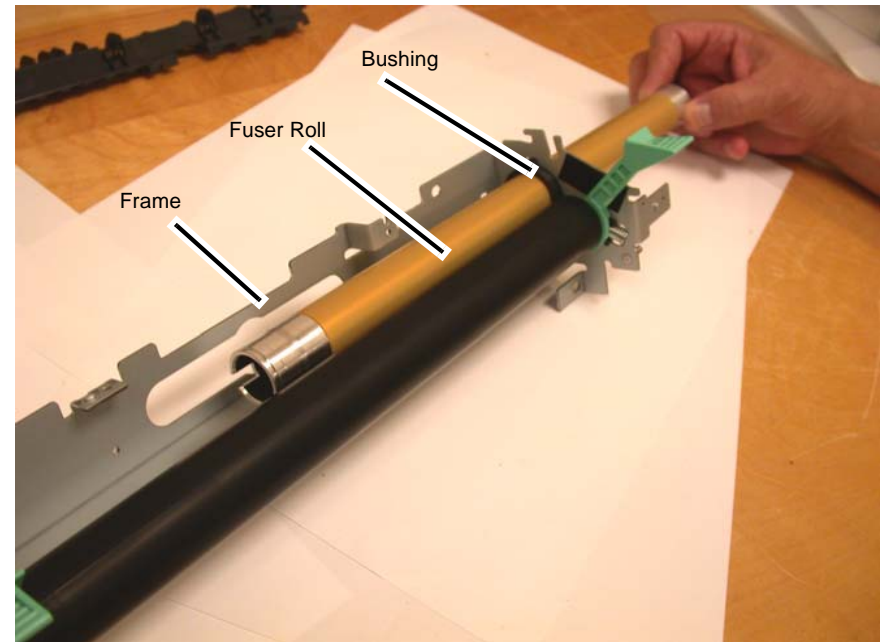

Figure 5 Removing the Fuser Roll
5. Remove the Fuser Roll by pulling it through the Bushings in the Frame (Figure 5).